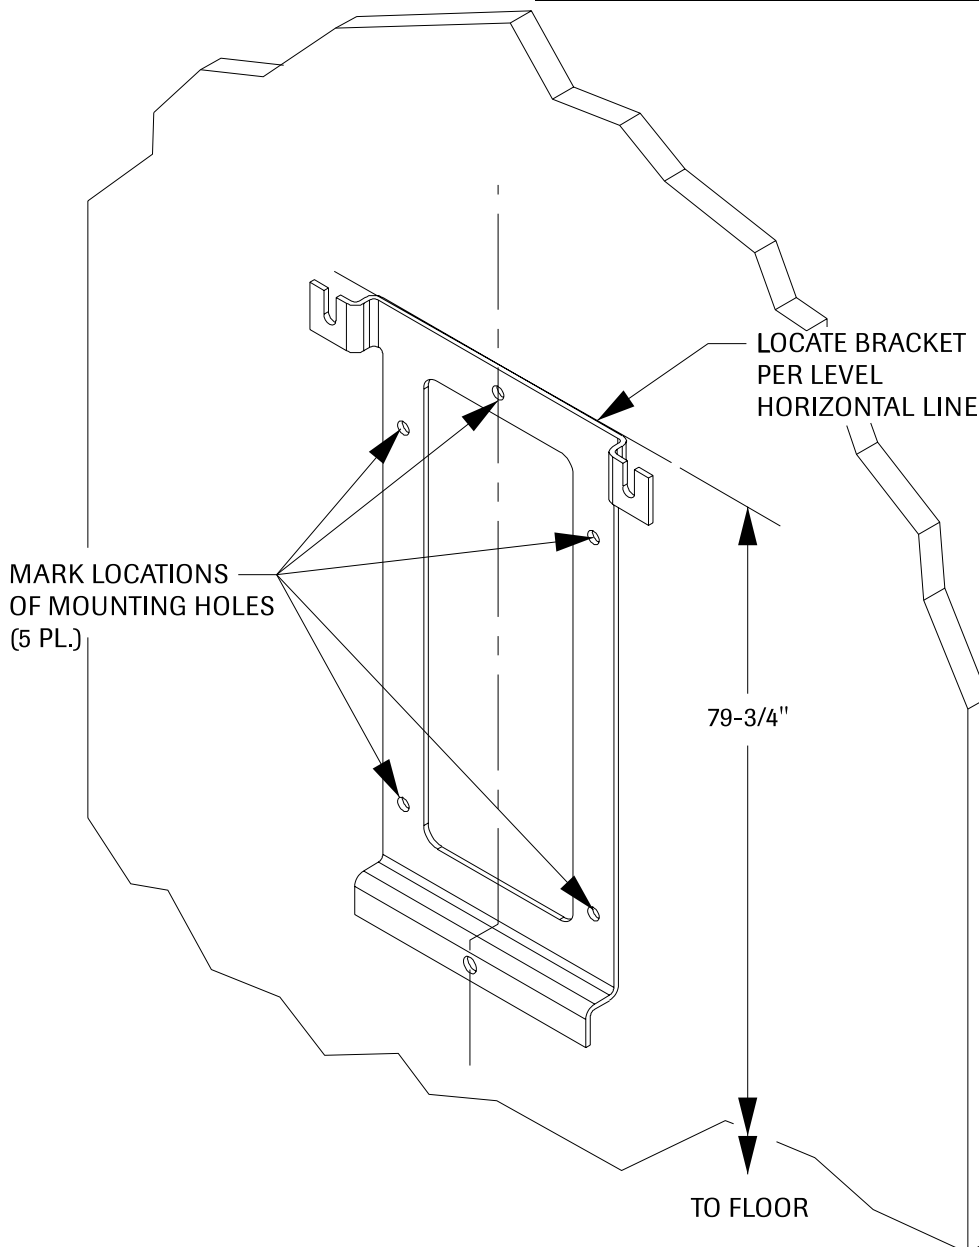

Figure 2
4. Place bracket flat against wall as shown in Figure 2 and align top of bracket with level horizontal line. Vertical center line of bracket will be vertical center line of installed manifold. Mounting top of bracket at 79-3/4" height will net a 61" height from center of header to finished floor.